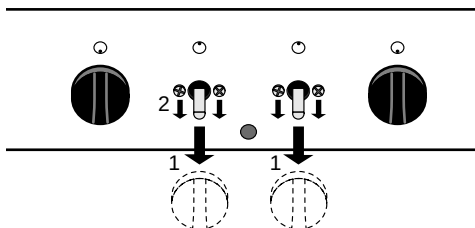

fig. 8
1. Remove the middle control knobs of the dashboard by pulling them towards you (see fig. 8, 1).
2. Remove the screws (see fig. 8, 2), in order to detach the cardan holders and the attachment plate.